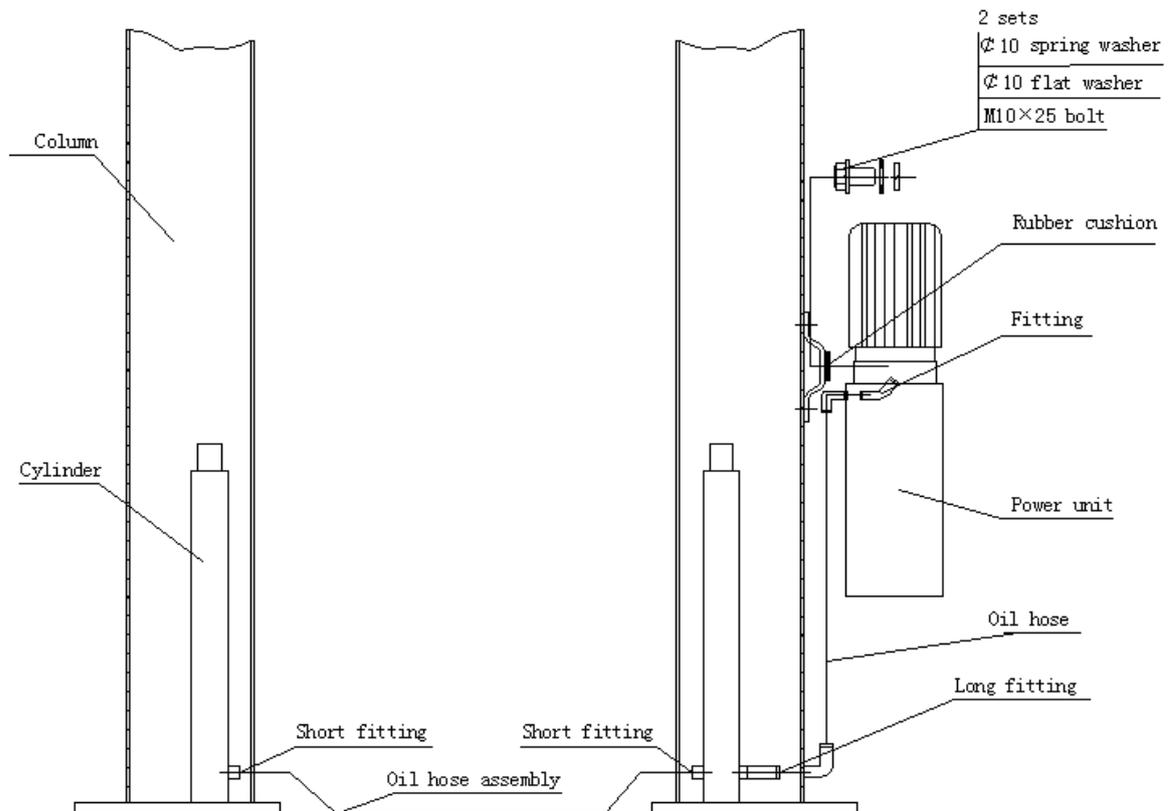

Fig. 11
- Use two M10 bolts and washers to fix the power unit (as shown in Fig.11). for DM9BP models , install the hydraulic line as shown in Fig. 14 and tighten all the fittings to prevent oil leakage.